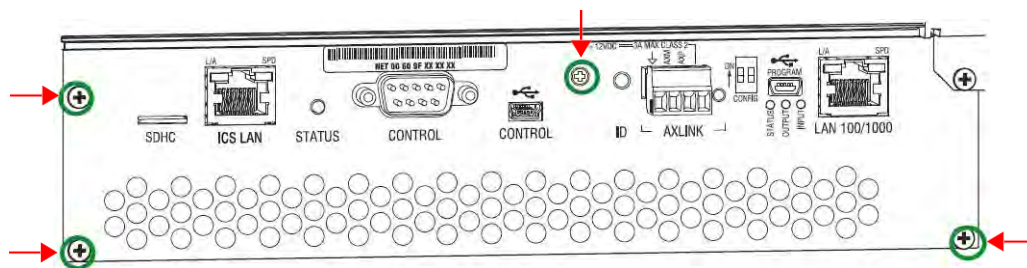

FIG. 149 CPU board DGX 6400 - Remove screws indicated
4. **Enova DGX 6400** – Remove the four screws from the CPU faceplate (FIG. 149):